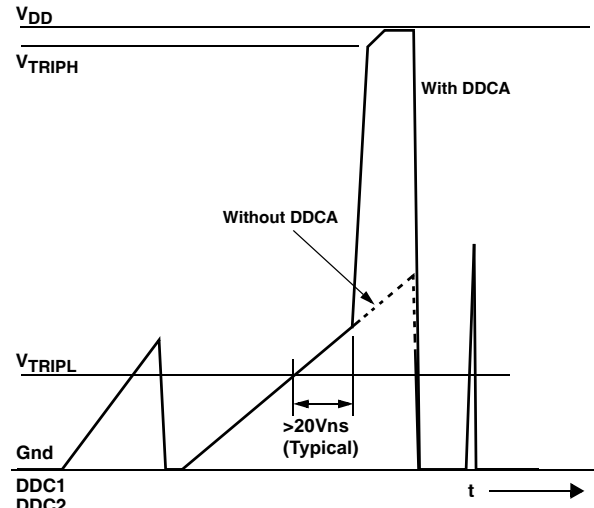

FIGURE 10. NOISE SUPPRESSION. BOOST CURRENT APPLIED WHEN INPUT SIGNAL EXCEEDS 20Vns (TYPICAL)
- Measured as area under triangular waveform above V_{TRIPL} , with time as base and V_{IN} as height (See Figure 10).